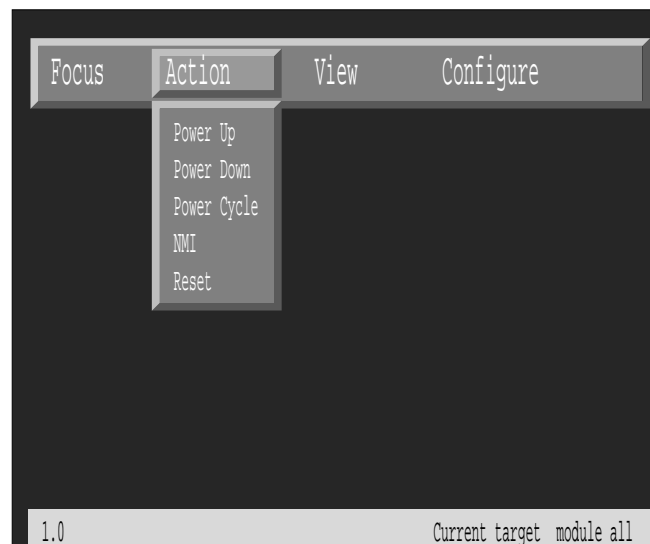

Figure 7-4 Action Menu Selection for MMSC Display
2. Go to the “Action” menu on the display using the direction keys (see Figure 7-4).
2. Go to the "Action" menu on the display using the direction keys (see Figure 7-4).